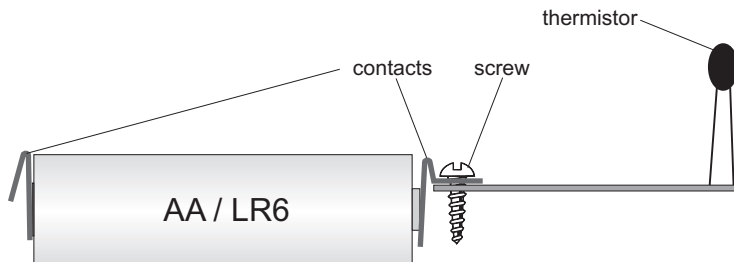

Fig. 4 Connection of the elements in a transmitter
2. Check the terminals connecting the batteries with the thermostat plate. Tighten the screws connecting the metal contacts of the thermostat (see Fig. 4).